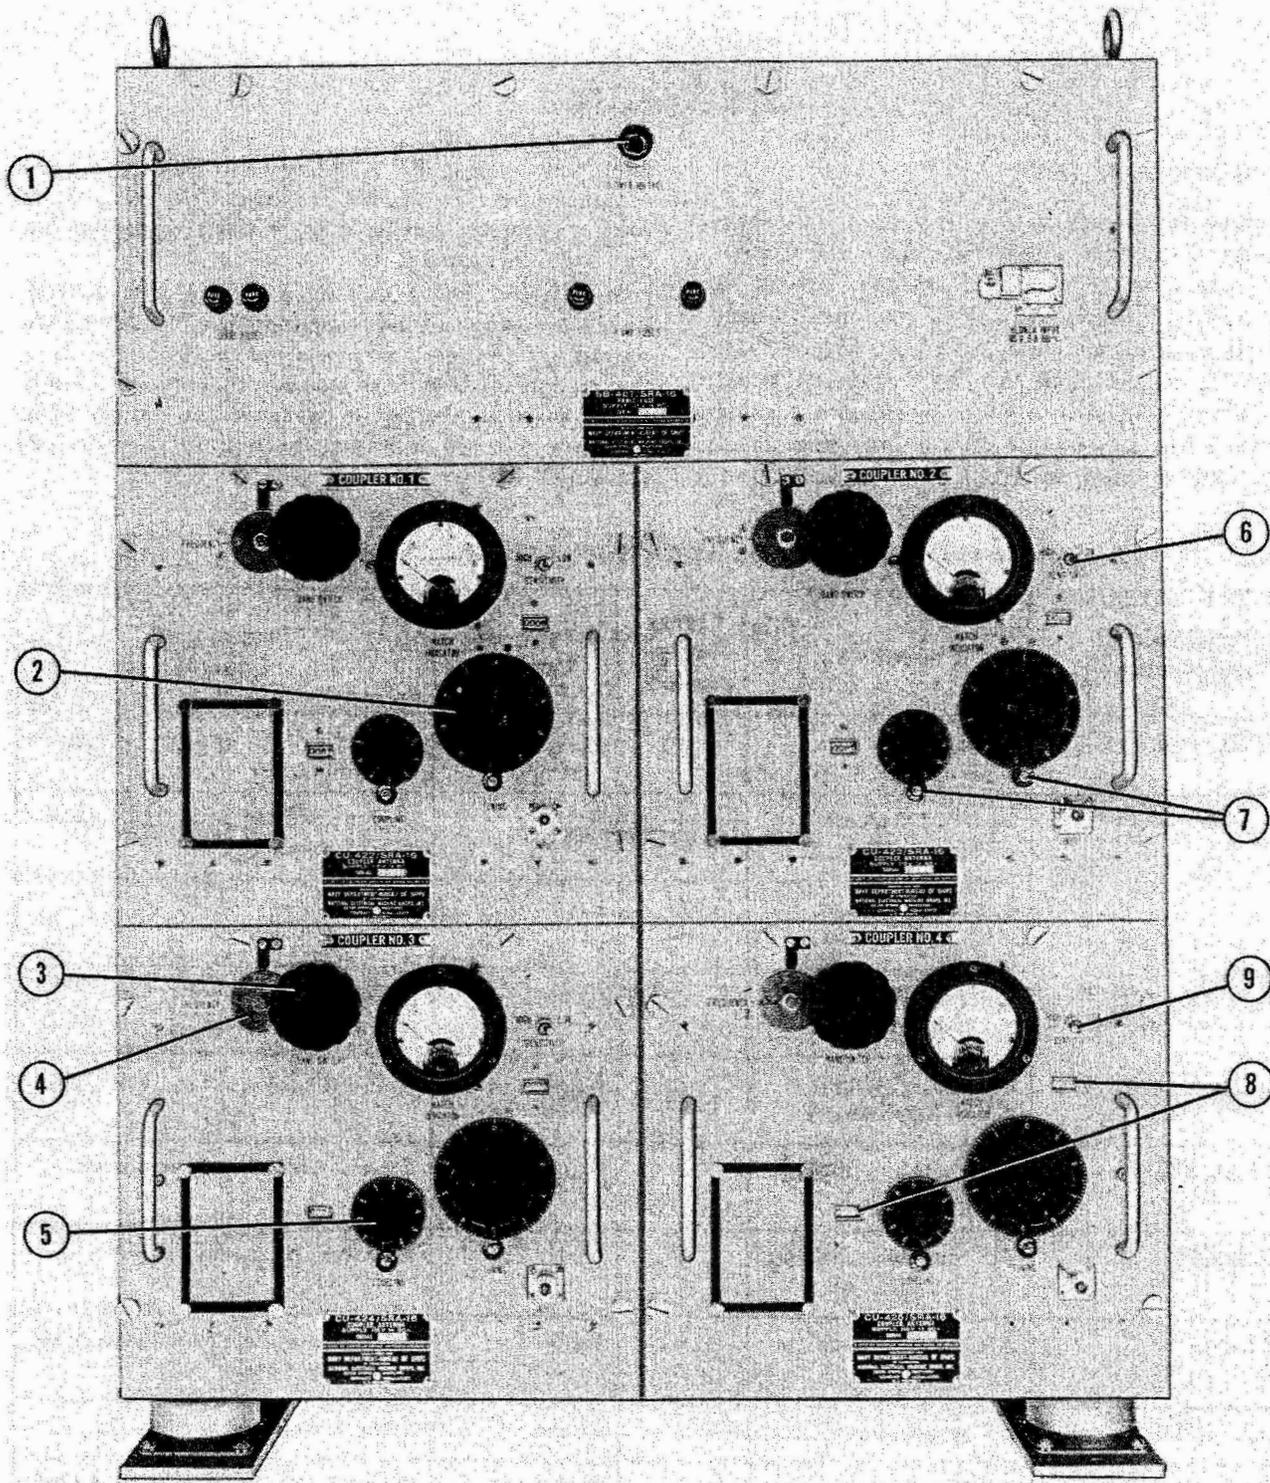

Figure 4-1. Location of Controls
b. OPERATING CONTROLS AND INDICATORS.—All operating controls and indicators to be used by operating personnel are located on the front panels of the equipment. No internal adjustments or settings should be attempted by the operator. The various front-panel controls and indicators are listed in Table 4-1 and are shown in figure 4-1.